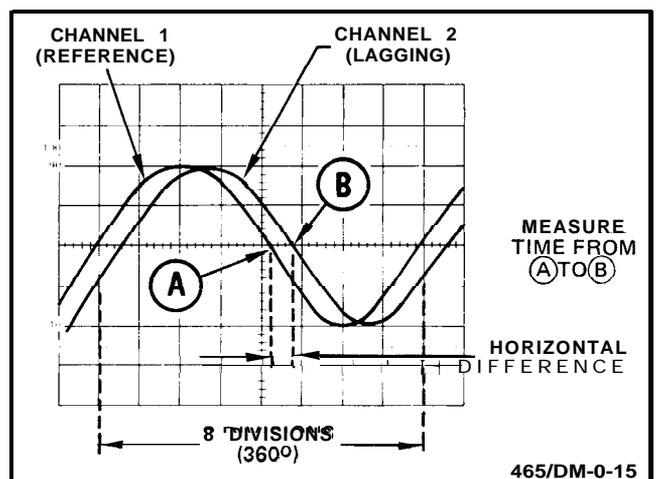
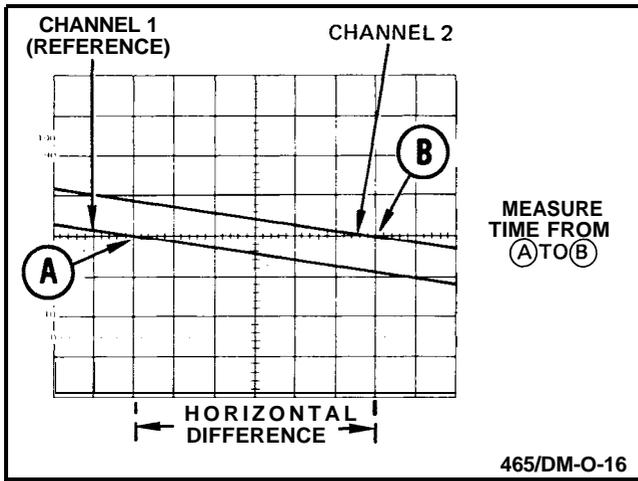

Figure 18. Phase difference.
Figure 19. High-resolution phase difference.
9. Position the displays and adjust the SEC/DIV Variable control so that one reference-signal cycle occupies exactly 8 horizontal graticule divisions at the 50% rise-time points (see Figure 18). Each division of the graticule now represents 45° of the cycle ($360^\circ \div 8$ divisions), and the horizontal graticule calibration can be stated as 45° per division.
EXAMPLE: The horizontal difference is 0.6 division with a graticule calibration of 45° per division as shown in Figure 18.
EXAMPLE: If the sweep rate were increased 10 times with the magnifier (X10 Magnifier out), the magnified horizontal graticule calibration would be 45° /division divided by 10 (or 4.5° /division). Figure 19 shows the same signals illustrated in Figure 18, but magnifying the displays results in a horizontal difference of 6 divisions between the two signals.